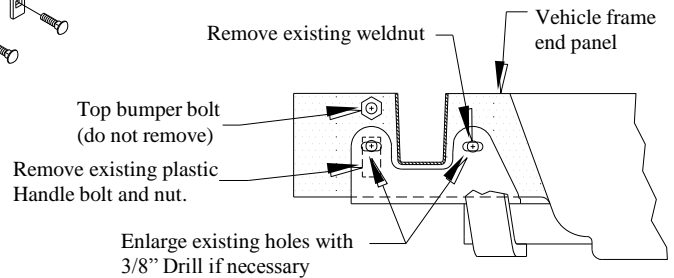

Figure 2
- Remove existing weldnut from end panel on the inboard side of frame rail (see figure 2).